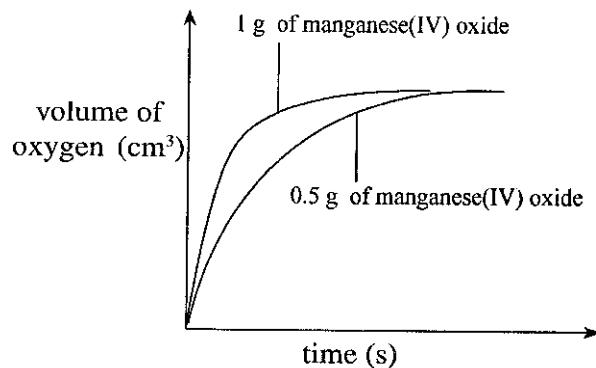

Fig 11.6 Graphs of volume of oxygen against time
manganese(IV) oxide. When the graphs of volume of oxygen against time are plotted using the same axes, they appear as shown in figure 11.6.